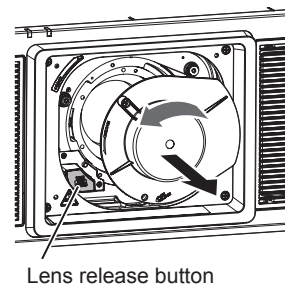

Fig. 2
- 2) **Remove the lens hole cover. (Fig. 2)**